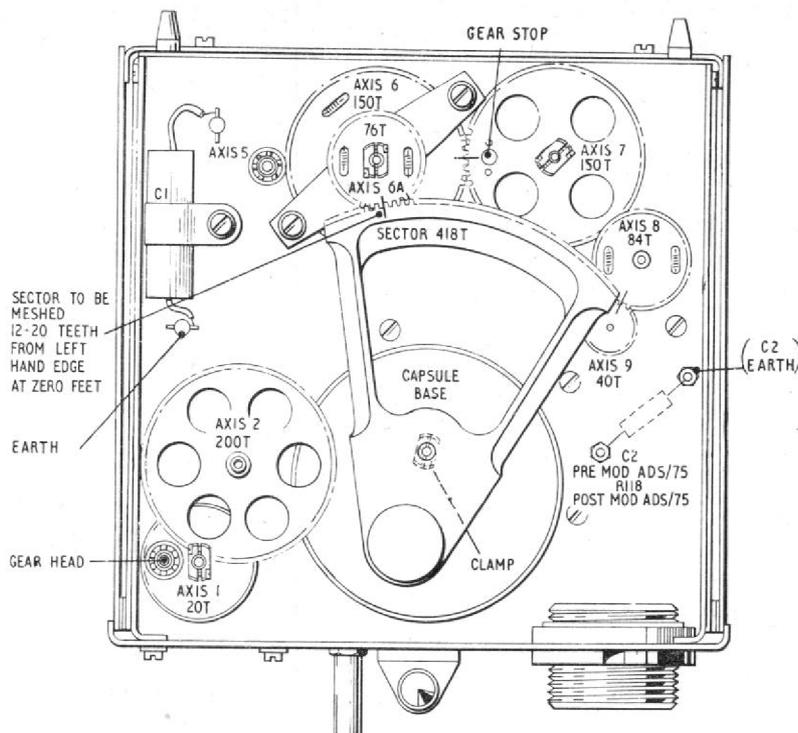
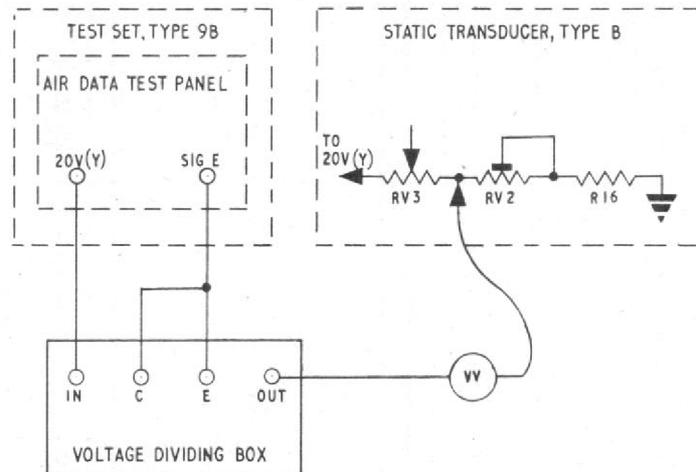

Fig. 1. Static transducer, Type B—underside view
Fig. 2. Test connections for log S calibration—pre-mod. ADS/75
1. The tests detailed in this appendix are additional to the standard serviceability test (Appendix 1) and are necessary either when certain components are replaced (Appendix 4) or during fault diagnosis (Appendix 2). Unless instructed to the contrary, these tests are to be performed with the transducer connected to the test set, Type 9B, and either the pitot/static test set, Mk. 3 or the air data test set, Type B, as shown in Appendix 1, fig. 1, and the cover removed. The procedures detailed in Appendix 1, para. 4-15 must all have been carried out.
C2 (fig. 1). Set the PCU mains switch and switch S1 (test set, Type 9B) to ON. Reduce the range of the valve voltmeter as necessary and check that the null indicated on the meter is not greater than 2mV r.m.s., if necessary adjust RV5 (Chap. 11, fig. 2) to achieve this. If the smallest null obtained is greater than 2mV, carry out the checks of Appendix 2, para. 10. If these are correct, then declare the transducer unserviceable.
10. With switches set as in para. 7 displace the 200T gear of axis 2 (fig. 1) one turn against the servo action and release it; it should make one overshoot in either direction before coming to rest. Repeat displacing the servo in the opposite direction. RV1 should be adjusted, if necessary, to achieve the required conditions.
12. With switches set as in para. 7, displace the 200T gear of axis 2 (fig. 1) one turn against the servo action and release it; it should make one overshoot in either direction before coming to rest. Repeat displacing the servo in the opposite direction. If the required condition is not satisfied, measure the resistance of R7; if out of tolerance, change R7 and retest; if within tolerance, change the motor-tachogenerator and retest.
13. Connect the valve voltmeter set to the 10V range across capacitor C1 with the meter earth terminal connected to the capacitor earth terminal (fig. 1). Set the PCU mains switch and switch S1 (test set, Type 9B) to ON. The voltage as read on the valve voltmeter should not exceed 5V r.m.s.
(1) Ensure that power has been switched on for at least thirty minutes and comply with the conditions of para. 15 (1), (2) (3) and (4).
(2) Screw back the outer ring of screws on the adjustable cam (Chap. 11, fig. 2) until they are all at least  $\frac{1}{10}$  in. clear of the cam track.
(3) Re-set the static pressure to the height at which the largest error occurred during the test of para. 15 and re-adjust synchro CX2 to give the correct reading at this point (Appendix 1, Table 3).
(4) Reduce height in steps of 5000 ft to 0 ft and if required adjust the setting of the inner ring of screws at each point to bring the G1 reading towards the required value. Repeat this process working from the starting point (sub-para. (3)) to 50 000 ft. Do not attempt to correct the readings completely on the first adjustment; adjust each screw not more than one turn before proceeding to the next one.
(5) Continue to adjust the inner ring of screws, working backwards and forwards towards 0 ft in one direction and 50 000 ft in the other, until all G1 readings are about 20 divisions lower than the true readings in Appendix 1, Table 3.
(6) Set the static pressure to 0 ft, then increase height in steps of 5000 ft, screwing down the outer ring of screws at each setting to bring the G1 reading within the tolerances of Appendix 1, Table 3, ensuring that in all cases the outer screws are bearing against the cam. To achieve this the outer ring of screws should not be screwed down more than one turn beyond the point where it touches the cam.
(7) To check the condition of sub-para. (6), set the static pressure to bring the cam follower beneath a particular screw. Upward movement of the screw should cause the G1 pointer to deflect.
(8) Carry out the ranging test of Appendix 1 in respect of the HT 4T synchro. If the G1 readings obtained are not within the tolerances of Appendix 1, Table 3, re-adjust the cam screws where necessary, ensuring that each of the outer screws still bears against the cam.
(9) Repeat sub-para. (8) until all G1 readings are within the permitted tolerances. Replace the transistor amplifier.
(10) If the conditions of sub-para. (9) cannot be obtained then the transducer should be declared unserviceable.
- (2) Release and swing clear the transistor amplifier as described in Appendix 4, without disturbing the cable connections.
- (3) Connect a shorting link between the junction of RV3 and RV4, and the 20V(Y) side of R15.
- (4) Connect up subsidiary test equipment as shown in fig. 2.
- (5) Set the voltage dividing box to a ratio of 0.3307, switch S1 (test set, Type 9B) to ON and adjust RV2 until the valve voltmeter indicates a null.
- (6) Remove the shorting link across R15 and RV4, and disconnect the wander lead.
- (7) Set the controlled static pressure to 1013.2 mb (pitot/static test set, Mk. 3) or zero feet height (ADS test set, Type B).
- (8) Ensure that the cam follower of CU1A mechanism is resting at a point  $\frac{1}{8}$  in. clockwise (when viewed from the top) of the small dip in the cam profile. If the cam follower is incorrectly set refer to para. 24.
- (9) Connect the wander lead of the subsidiary test equipment to the junction of RV3 and RV4 and set the voltage dividing box to 7450. Adjust RV4 until the valve voltmeter indicates a null.
- (10) Disconnect the wander lead from the junction of RV3 and RV4, connect it to T1 INPUT on the ADTP of the test set, Type 9B and set S4 to LOG S.
- (11) Release the three 6BA screws clamping RV3, set the dividing box to 7338 and turn RV3 until the valve voltmeter indicates a null.
- (12) Disconnect the wander lead from T1